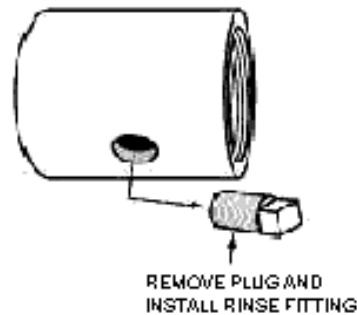

Figure 2.2.4.
2. Remove the plug from the mixing chamber located by the vacuum breaker on the back of machine; and install the rinse injection fitting (supplied with your dispenser). See Figure 2.2.4.